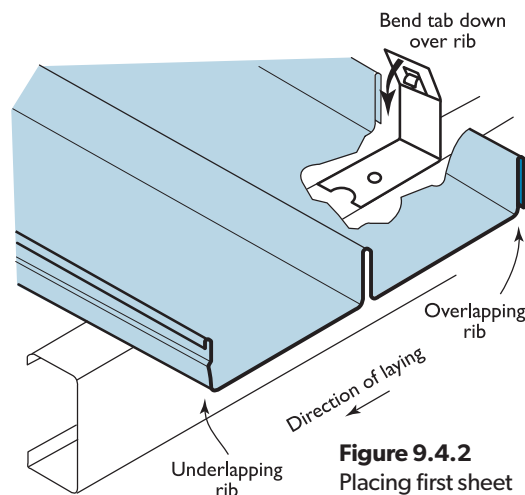

Figure 9.4.2
1. Locate the first sheet over the fixed starting clips (Figure 9.4.2).
Place the last sheet over the finishing clips, and bend the tab of all clips over the rib. (Similar to the steps used in the first sheet. Figures 9.4.2 & 9.4.3)